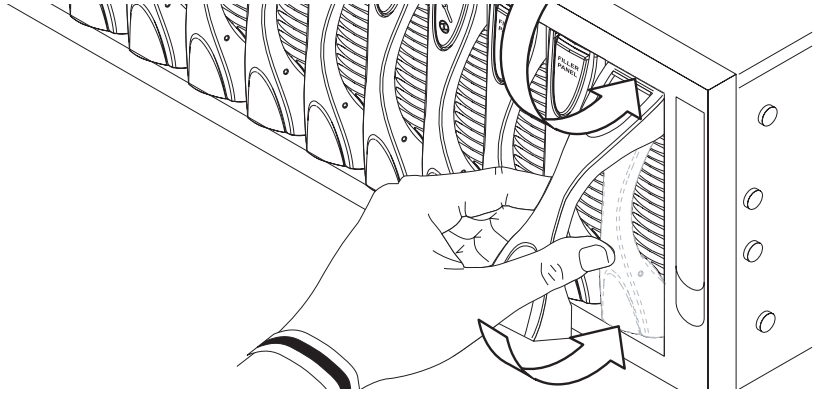

FIGURE 2-6 Closing the Blade Lever Mechanism
- 7. Gently push the blade into the slot until the blade latch ears, on top of the lever, are positioned in the chassis (FIGURE 2-6).**
- 8. Complete the hardware installation by closing the blade lever fully, which engages the blade into the chassis slot (FIGURE 2-6).**